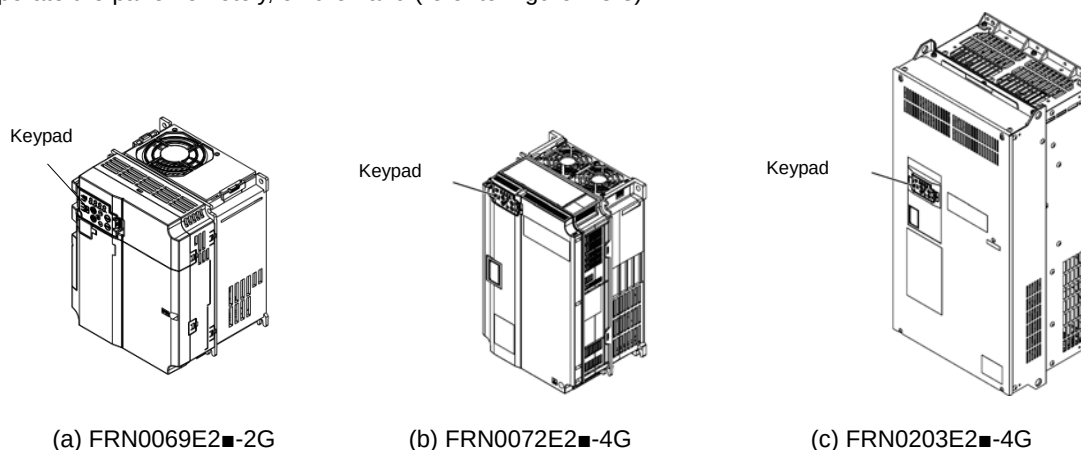

Figure 2.3-1 Attaching the Keypad to the Inverter Main Body
- Attach to the inverter main body (refer to figure 2.3-1(a), (b), (c))